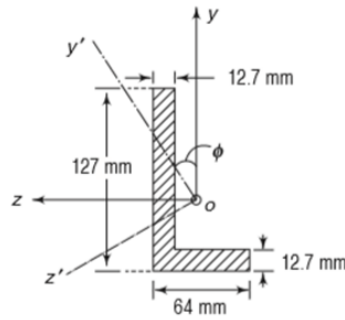

Figure 5
- (b) A bar of angle section is bent by a couple M acting in the plane of the larger side as shown in Figure 5. Find the centroidal principal axes  $Oy^1z^1$  and the principal moments of inertia. If  $M = 1135 \text{ Nm}$ , find the absolute maximum flexural stress in the section. [7M]